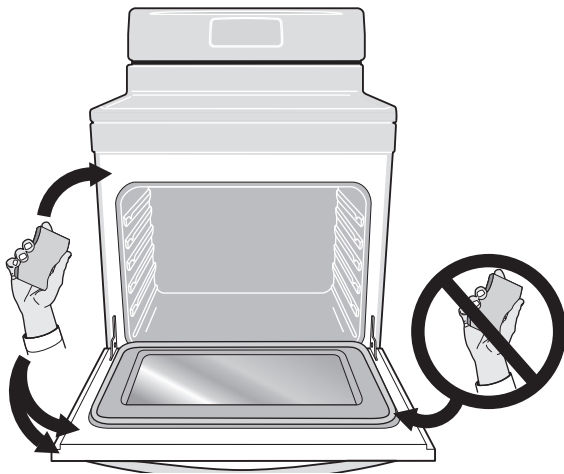

Figure 9: Areas to clean and avoid (gasket)
- Do not clean the oven door gasket (Figure 9). The woven material of the oven door gasket is essential for a good seal. Care should be taken not to rub, damage or remove the gasket.
- Clean any soil from the oven frame, the door liner outside the oven door gasket and the small area at the front center of the oven bottom. These areas heat sufficiently to burn soil on. Clean with soap and water. These areas are shown in white (Figure 9).